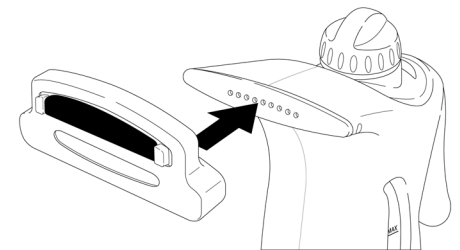

FIGURE 2
2. Slide Rubber Accessory Housing (with inserted accessory) onto Steam Nozzle as shown ( FIGURE 2). Make sure that holes on Steam Nozzle are aligned with open slot on Rubber Accessory Housing so that steam is not blocked.